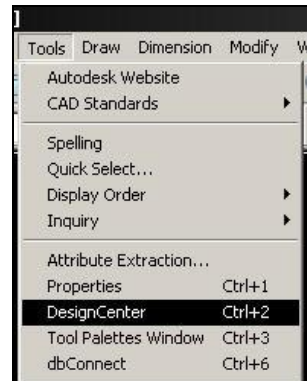

Fig. 2
- 3) Start AutoCAD and load the DesignCenter by finding the **Tools** pull down menu and selecting **DesignCenter** (Fig. 2). You can also access this by pressing **CTRL+2**.